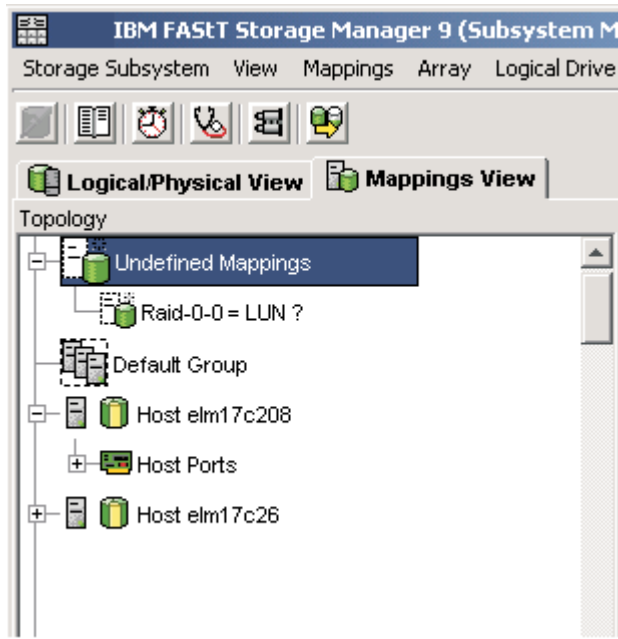

Figure 10. Undefined FlashCopy disk
1. In the SMclient, open the Mappings view of the Subsystem Management window, as shown in Figure 10. The newly-created FlashCopy logical drive displays in the undefined mapping section.